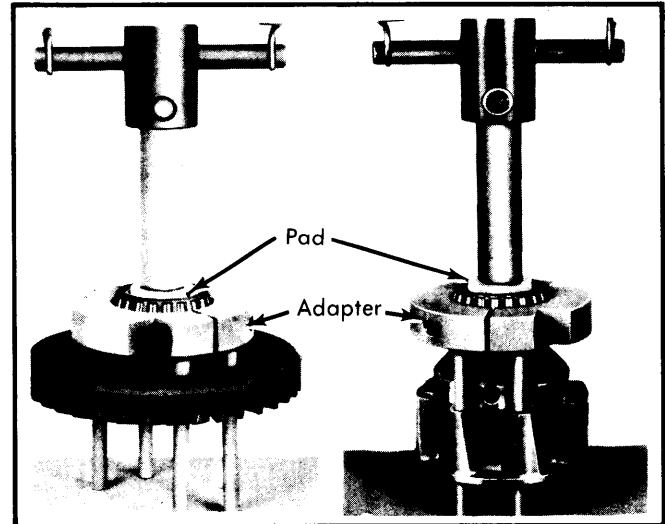

Fig. 11 Removing Differential Side Bearing
5) To disassemble differential, remove bolts which hold differential shaft. Insert 4 extractor clamp support rods (H3) into 4 diagonally opposed holes of ring gear. Place adapter (H1) around bearing. See Fig. 11. Tighten Allen screws on adapter plate to 14.5 ft. lbs. (20 N.m).